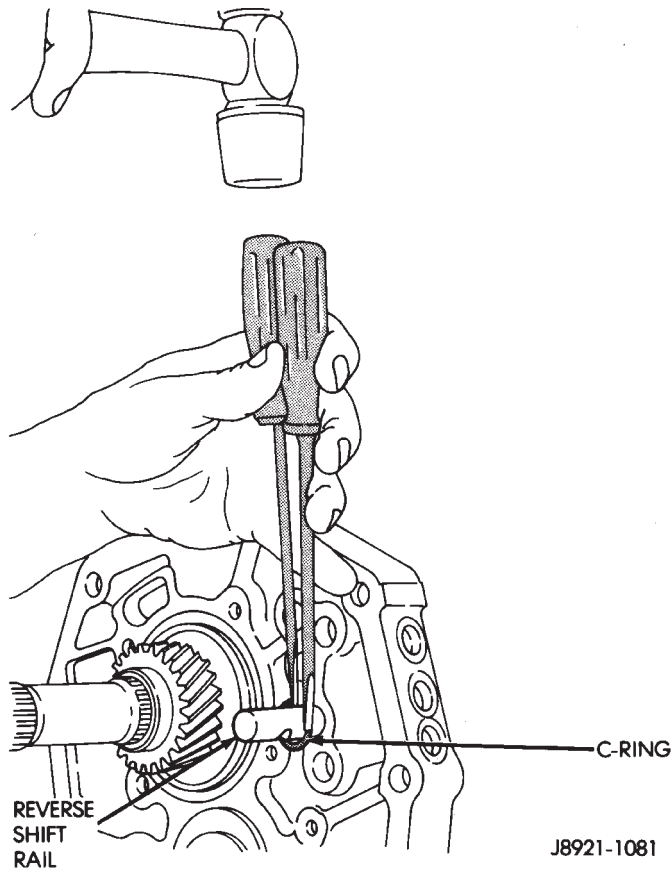

Fig. 77 Remove Reverse Shift Rail C-ring
(30) Remove the c-ring holding the reverse shift rail into the intermediate plate using two equally sized screwdrivers (Fig. 77).